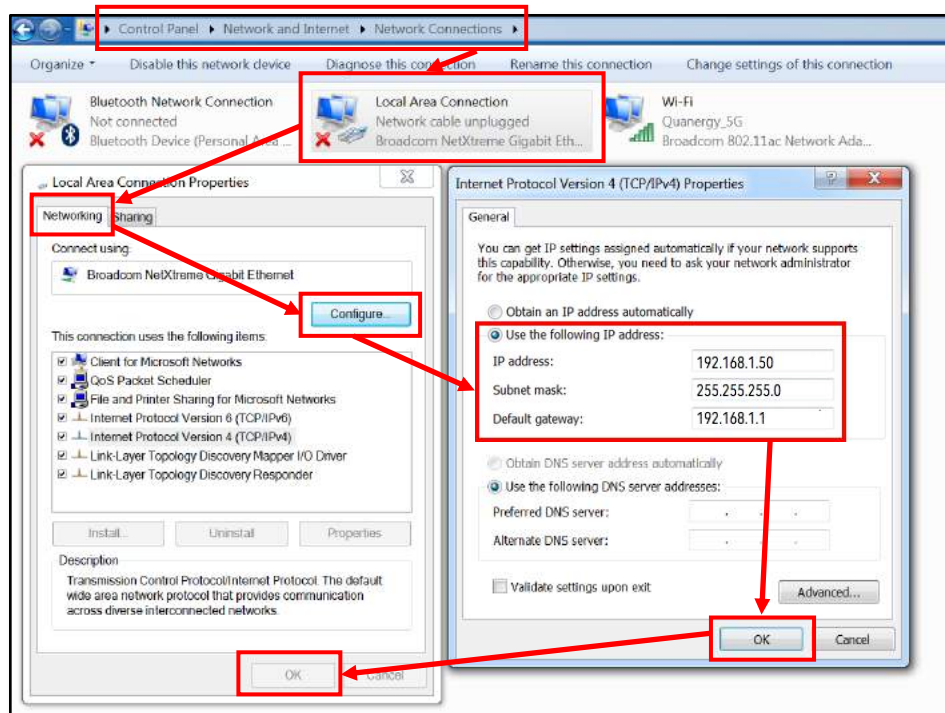

Figure 25. Creating a Network on Windows 7 Machine
- If you attached the sensor to a Windows 7 host machine, refer to Figure 25, then: